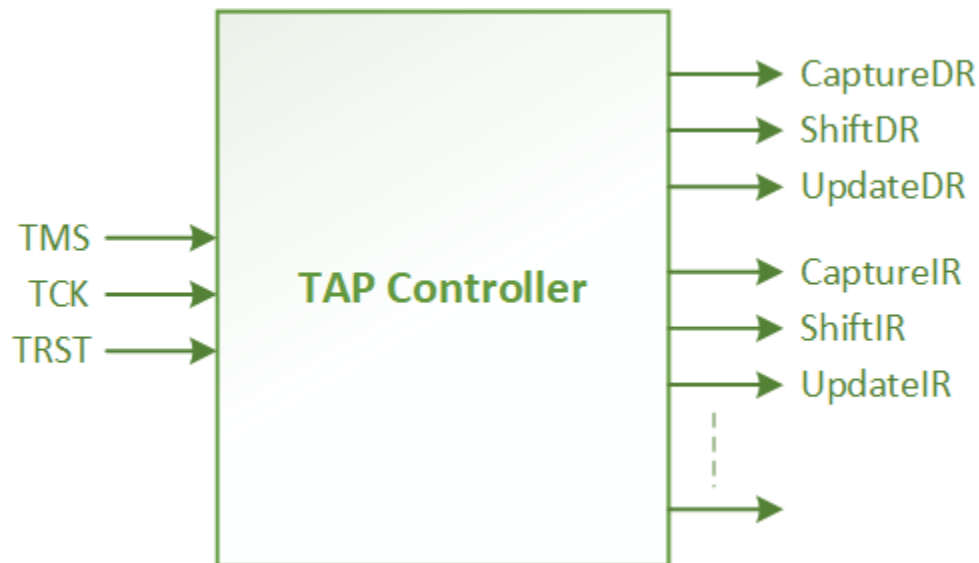

Figure 1: A top level view of TAP Controller
Figure 1 shows a very basic top-level view of TAP controller. TMS, TCK and the optional TRST signals go to a 16-state FSM, which produces various control signals depending upon the FSM's state. These output signals include dedicated control signals for Instruction Register (IR): CaptureIR, ShiftIR, UpdateIR and generic control signals for all Data Registers (DR): CaptureDR, ShiftDR, UpdateDR along with other control signals.